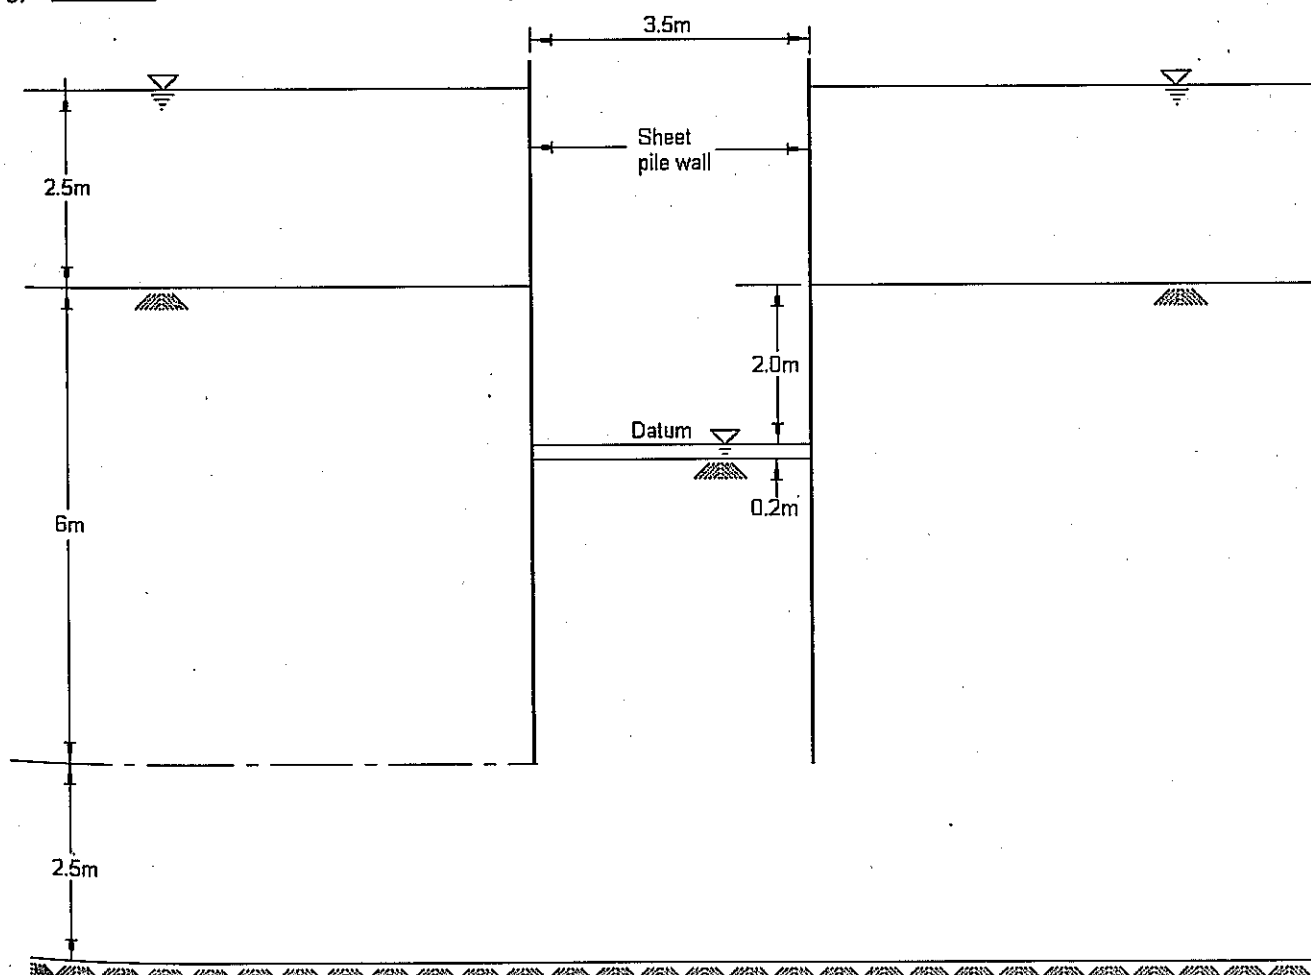

Figure Q7
7. Figure Q7 shows two sheet-pile walls to be driven in a homogeneous river bed. The trench level is located 2.2m below the river bed. It is found that water in the trench needs to be pumped out at a rate of 5 litres per minute per meter length of trench.